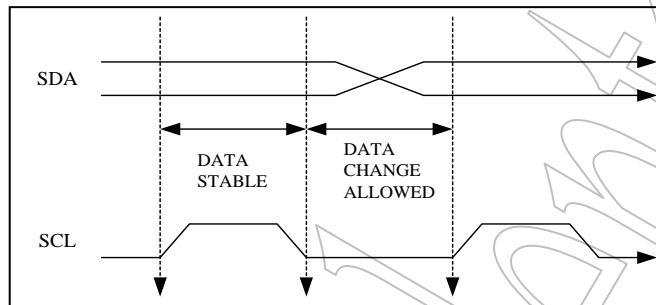

Fig 5.2 Valid Data
- Valid data: The data on the SDA line must be stable during the high period of the SCL clock. Within each byte, MSB is always transferred first. Read/write control bit is the LSB of the first byte. Please refer to Fig 5.2.